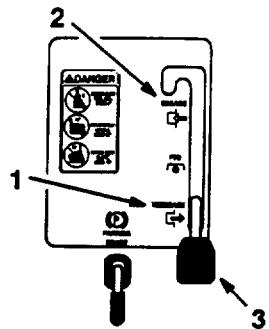

Figure 8
4. Move the blade control (PTO) to "DISENGAGED" (Fig. 8).